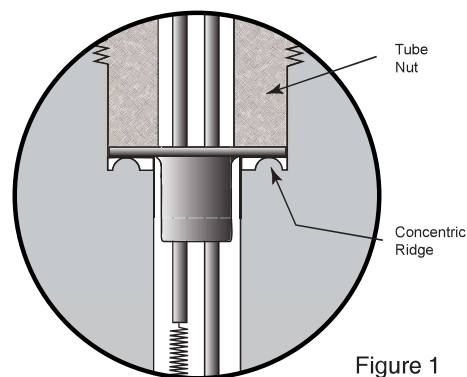
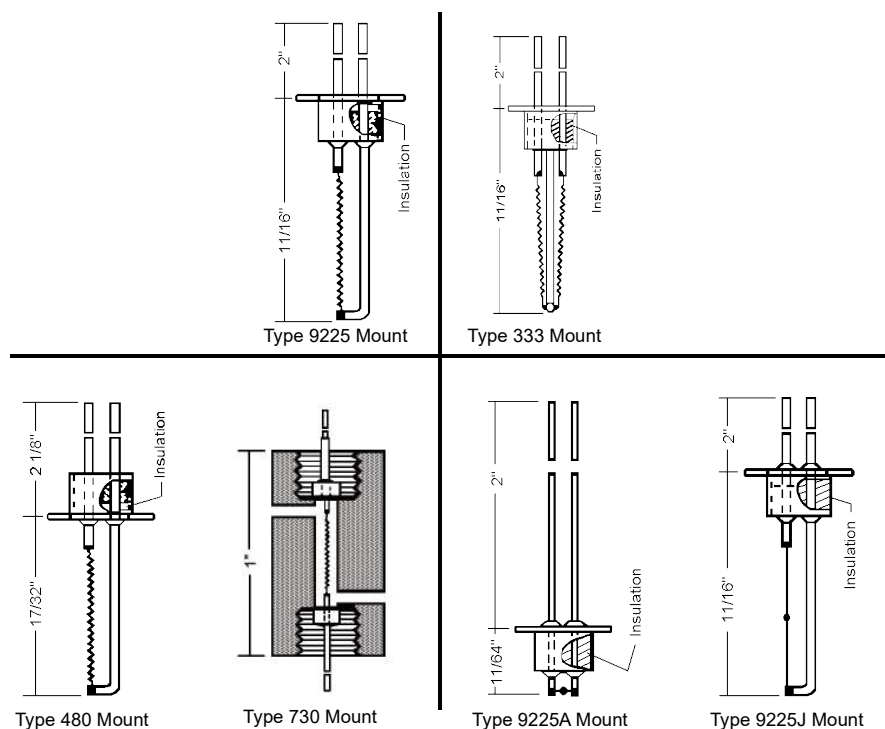

Figure 1
Figure 2
GOW-MAC filaments are mounted on either two or three pin glass to metal seals. The 9225 and 333 mounts are gold plated with glass insulation. GOW-MAC also offers (a) hermetic seal, and (b) axial filament (730 mount shown in Fig. 2) as used in its model 10-952 TCD. TCDs with hermetic seal and axial filaments must be returned to GOW-MAC for filament replacement. Filaments on single-header mounts (Fig. 2 except the 730 mount) can be replaced in the field by following the instructions in the bulletin. Filaments in the majority of TCDs are secured with tube nuts which screw into the cell and make a mechanical seal between the flange on the filament holder and the TCD body (the concentric ridge shown in Fig. 1).
5. Clean cavities of cell block, tubing and drilled sections with fresh acetone. If a subsequent water rinse is used, ensure all water is removed and cell is dry before installing filaments. This is most easily accomplished by baking the detector block at 150 °C for six (6) hours in an oven with a purging N2 flow. All internal surfaces should be clean for optimum heat dissipation. Inspect cavities for deposits and particles. Inspect filament header seats (the concentric ridge in Fig. 1) for scratches across the seat that might prevent a gas-tight seal.
5. Clean cavities of detector block, tubing and drilled sections with fresh acetone. If a subsequent water rinse is used, ensure all water is removed and cell is dry before installing filaments. This is most easily accomplished by baking the detector block at 150 °C for six (6) hours in an oven with a purging N2 flow. All internal surfaces should be clean for optimum heat dissipation. Inspect cavities for deposits and particles. Inspect filament header seats (the concentric ridge in Fig. 1) for scratches across the seat that might prevent a gas-tight seal.
6. Feed the leads of replacement filaments or thermistors through the tube nuts. Note position of support assemblies (refer to Figure 2 for mount types). Type 333 W2 long support wire faces inlet. Type 9225A (thermistor) is at right angles to axis of inlet.